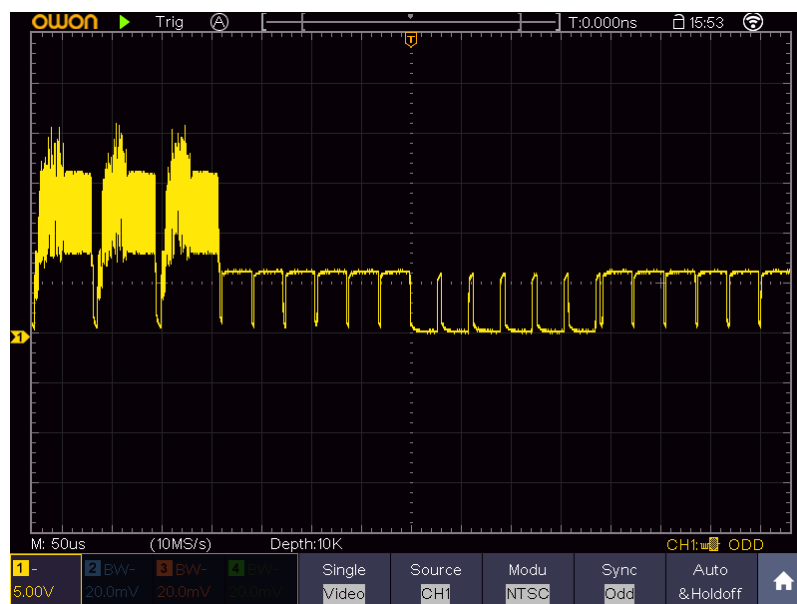

Figure 7-7 Waveform Captured from Video Field Trigger
- (1) Click  to call up the menu panel. Click the **Trig Menu** softkey on panel to display the Trigger menu.
- (2) Select the first menu item in the bottom menu. Select **Single** in the right menu.
- (3) In the left menu, select **Video** as the mode.
- (4) Select **Source** in the bottom menu. Select **CH1** in the right menu.
- (5) Select **Modu** in the bottom menu. Select **NTSC** in the right menu.
- (6) Select **Sync** in the bottom menu. Select **Field** in the right menu.
- (7) Adjust the vertical scale, vertical position and horizontal scale to obtain a proper waveform display (see *Figure 7-7*).